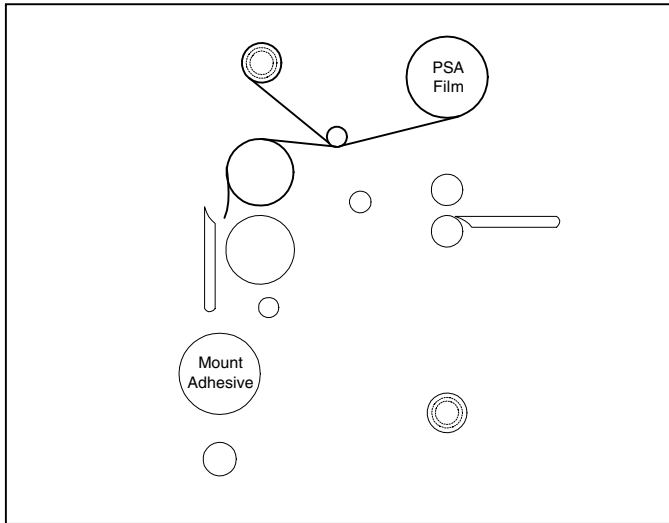

Fig. 25
1. Turn the **Power ON/OFF** to on (I).
2. Load the rolls of film as illustrated in Figure 25. Ensure no brake tension is applied to the film shafts.
5. Make two full wraps around the rewind tube, then carefully score the laminate without cutting the release liner. Pull the laminate down allowing it to drape over the upper heat roller (Figure 25).